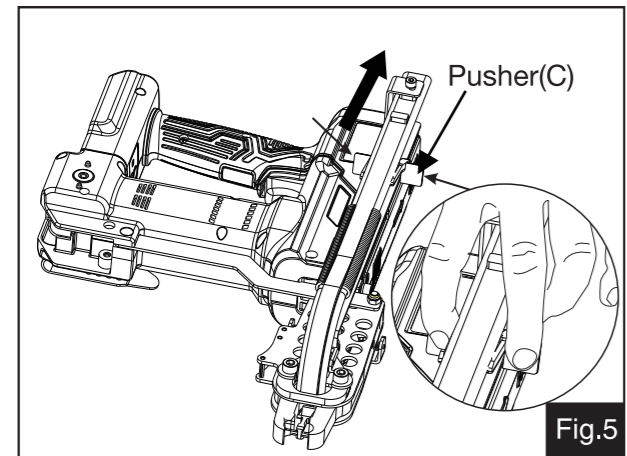

Fig.5
3. Once the nails are properly inserted, pull the pusher(C) backwards with two fingers (Fig.5)